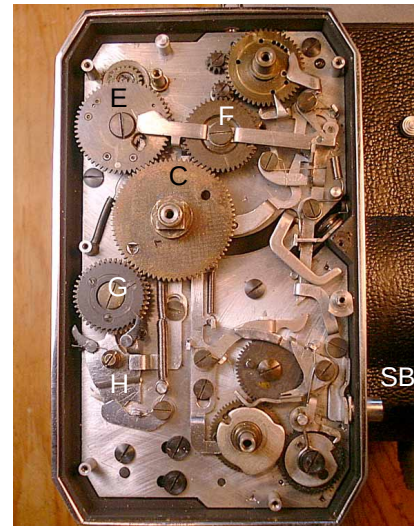
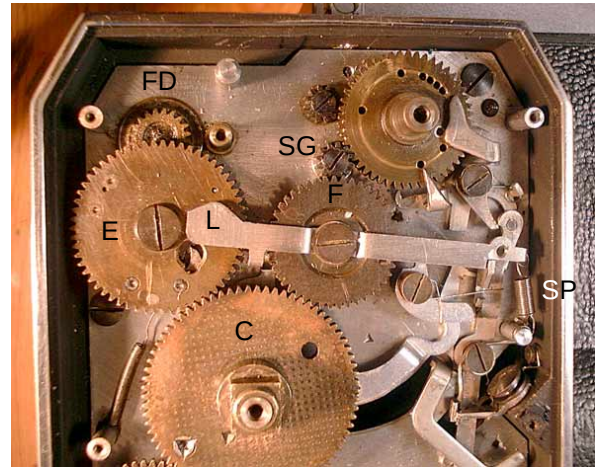
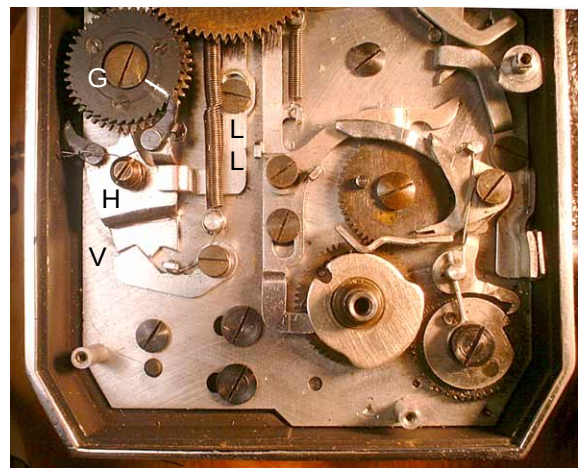
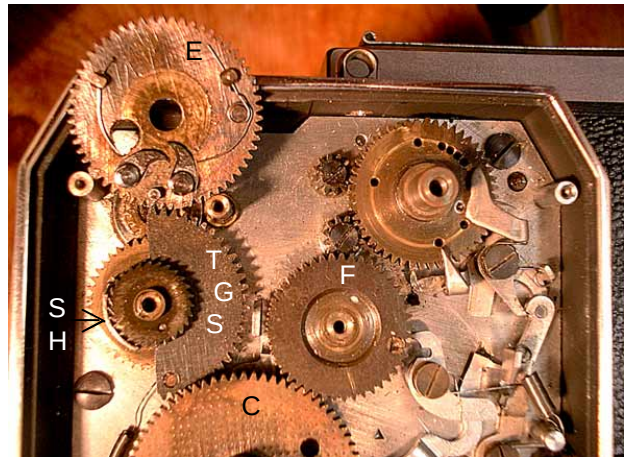

Fig. 2.
Fig. 3.
Fig. 4.
Fig. 5.
Figure 2, shows the same gears with the knobs removed. Now an intermediate gear (E) between the winding gear (C) and that drives the film counting dial, can be seen. Also, a double intermediate gear (F) between the winding gear and the film speed gear (B). Below and to the left of the winding gear is a gear (G) and a lower ratchet mechanism (H), that stops double exposures. This is all in the uncocked position.
General:- If retiming of the gears becomes necessary, begin by removing the winding gear (C), the counter dial (A) and the gear (E) between the dial and the winding gear. Remove the gear (G) with the double ratchet just below and slightly behind the winding gear. Replace the speed dial (B) and set it to Bulb. Turn the dial counter clockwise (there is an arrow indicating the correct direction) until the mirror is lowered into viewing position and the shutter is cocked. Just below the speed dial is a horizontal bar (L. Fig. 3) which locks the shutter-releasing linkages. Push the front of this bar up enough so that the shutter release button can be pushed (Fig 2. SB).
On the underside of the winding gear (C) is a positioning (stud) pin (Fig 3, C. See triangular mark on its the bottom left). With the shutter in released position, set the winding gear on its post with that bottom stud counter clockwise as far as it will go (against a substantial stud in the underlying mechanism plate) - as in Fig. 3. At this position, mesh the winding gear with the intermediate gear (E) between the winding gear and the speed dial gear. You can now set the winding key on its square post and wind, and release the shutter.
Replace the ratchet gear (G. Fig. 2) which meshes with the winding gear at 7 o'clock. Just below this gear is a bracket (H. Fig. 4) which is positioned by two spring loaded toggles. That bracket has a upward pointing curved arm (not shown - hidden by gear G). When replacing the ratchet gear, its position must be such that the pin on its lower side when rotated to maximum counter clockwise, strikes the upper end of the bracket arm, causing it to pivot to the right. When this happens the left ratchet will engage the bottom teeth on the gear and prevent further motion of the winding gear when it returns to rest - until the shutter is released. More on this below.
Before replacing the gear it is advisable to scribe the position of the lower pin on the upper surface (see mark on G in Fig. 4)
If it doesn't turn far enough on cocking, the pin on its bottom side will not pivot the bracket to the right. Then the right ratchet toggle will not disengage, and the winding gear cannot return to the rest position. On the other hand, if it turns too far it will engage the left and lower ratchet toggle before the shutter and mirror are fully wound. Again, the meshing of all the gears must be very exact. One tooth can mean the difference between the mechanism working properly, or not at all. In the uncocked position, it is advised to position the gear with its pin very close to the right hand ratchet as shown by the mark in Fig 4, before beginning precise adjustment. More about this all later.
Counter gear:- timing of the counter gear is the most difficult of all. It is here that many problems occur, since the force of the winding gear on the film take-up roller drive gear (FD, seen at 12 o'clock under the counter intermediate gear (E, Fig. 2) has caused wear. If there is any spalling (fraying) of the gear teeth, these should be smoothed off with very fine abrasive paper and polished.
Fig. 5, shows the gear underneath the intermediate gear (E) which has an upper ratchet gear, a thin gear segment (TGS), and a lower intermediate gear that drives the film take-up roller drive gear (FD. Fig 3) On the side opposite of the teeth of the thin gear segment is a partial curved raised extension about 3/8" long, which comes above the teeth of the upper ratchet gear. This is referred to as the segment hub (SH). On the bottom of the intermediate gear (E - shown upside down in Fig. 5)), there are two ratchet toggles.
If you have the gear positioned properly, the other toggle on the bottom side will be seen sticking out from under the gear at 9 o'clock. With the prick, reach underneath the intermediate gear and turn the thin gear segment (TGS) so that the cutout edges are facing straight up and down and the teeth are facing toward the right (as in Fig. 5). While holding the segment in this position, place the counter dial on the post with numeral 4 slightly past 12 o'clock. On the underside of the counter dial, and positioned between numerals 3 and 4, is a stop pin which, when the dial is turned counter clockwise, will come to rest against the post under numeral 4. This post is fastened into the underlying mechanism plate.
With the gear segment in the above position, lower the dial into position, meshing the gear on its bottom side with the gear segment and the film take-up drive gear. Notice the outside of the counter dial – its edge has shallow V's cut between each number, forming a cam. The bar (Fig 2, L) mentioned before (which locks the release linkage) is controlled by this counter dial cam. The follower on the left end of the bar fits into the V's in the dial and leaves the release linkage in the release positions, except when the last frame has been exposed. Then the follower drops into the deeper V between the 9 and 10 numerals and locks the release linkage at the other end.
Adjustment of the Anti-Double exposure gear (Fig 4.). See Fig 4. This gear (G) and its double ratchet toggle is operated by the winding gear. As the winding gear is turned clockwise to advance the film and cock the shutter, the gear (G) turns counter clockwise. The right ratchet stops the winding gear from being turned counter clockwise before a full cocking sequence is completed. As gear G turns, the pin on the underside engages the curved arm on the upper part of the toggle (not shown). This moves the toggle to the right and disengages the ratchet on the right and engages the left ratchet on the underside set of teeth as the winding knob reaches its full cocking motion clockwise. When the winding knob is then released and springs back to its original position, this disallows any further turning of the winding knob clockwise, hence stopping further film advance. The toggle is held in either of these two positions by V-shaped notches and a ratchet below (V). When the shutter is released, a long lever (LL, Fig. 4) lifts the double ratchet toggle up and to the left into its winding position to allow new film advance. That long lever is moved by a pin under the double intermediate gear (F. Fig. 3) between the winding gear and the shutter speed gear.
To see the upper end of that long lever the film counter lever (L, Fig 3) will need to be removed. Take care to replace the spring (SP). The gear F is double. The upper one has a lower pin that contacts a similar one on the bottom gear and these drive the lower gear that meshes with the small shutter gear (SG), which can be seen between the shutter speed gear and the double intermediate gear (Fig. 3).
Now the problem is that the underneath pin on the bottom gear must move the long lever at the end of the shutter release sequence. That is, the double intermediate gears move clockwise and that lower pin must contact the long lever and move it up enough so that its L-shaped lower end moves the double ratchet toggle (H. Fig. 4) to the left. If it does not, then gear (G) will jam the winding mechanism. If so, the lower intermediate gear (F) must be lifted and rotated clockwise one tooth (or more).